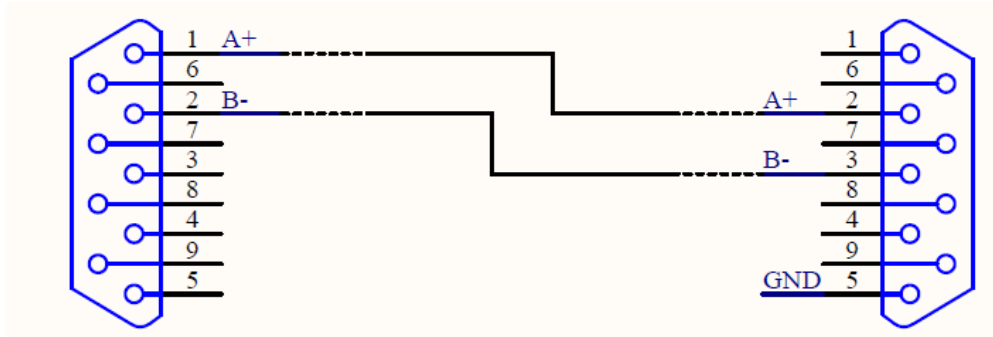

Figure 3.2.6 485 wiring diagram
(3) Wiring diagram: If 232 to 485 converter or USB to 485 converter is used, the 485 terminal still needs to be connected to the RS485 communication cable as shown in Figure 3.2.6, and then connected to the power supply.